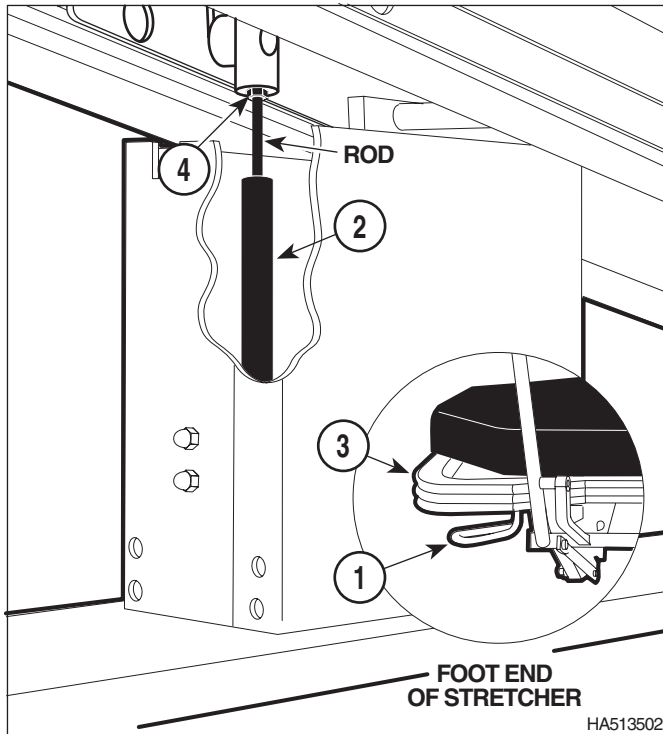

Figure 4-24. Trendelenburg Gas Spring Adjustment (511 and 516 only)
- (1) Squeeze the Trendelenburg handle (1, Figure 4-24). The Trendelenburg gas spring (2) should release when the handle is squeezed - meaning the litter top (3) should be able to be raised and lowered. Release the Trendelenburg handle. Put pressure on one end of the litter top and then the other end. The litter top should not "drift" upward or downward.
- (2) Loosen jam nut (4).